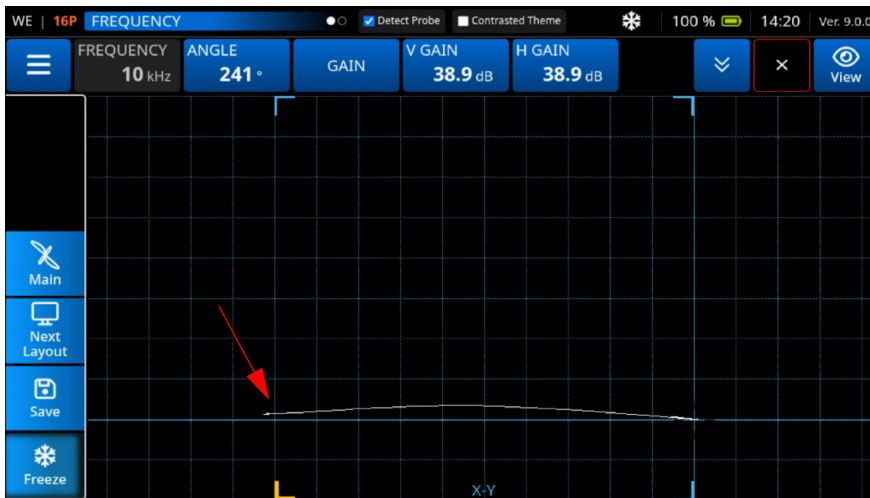

Figure 3-46 Adjust the Gain Setting
2. Using the **Gain** setting and the knob, adjust the signal until the dot reaches the limit of the left side of the 10x10 grid (0% horizontal) (See Figure 3-46 on page 78).